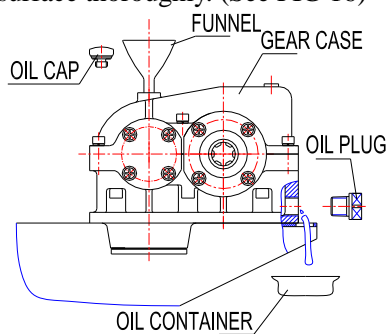

FIG 16
- Install filter in gear case; tighten. Clean gear case surface thoroughly. (See FIG 16)